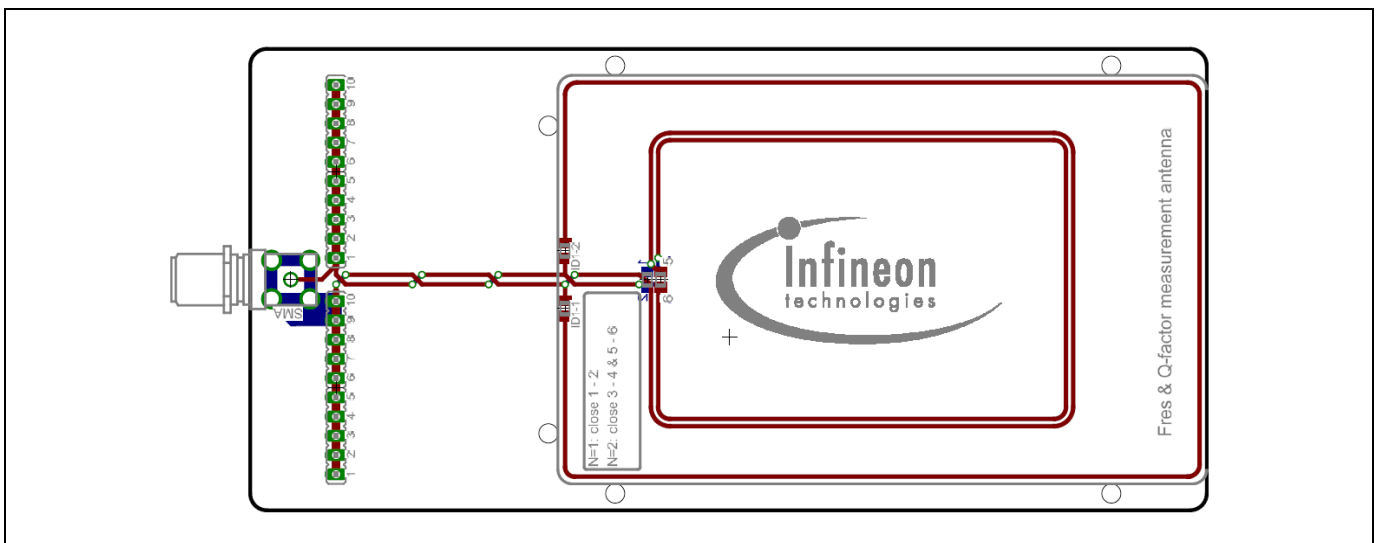

Figure 13 Measuring coil for resonance frequency measurement
- Measuring coil with 2 turns, as depicted in Figure 13